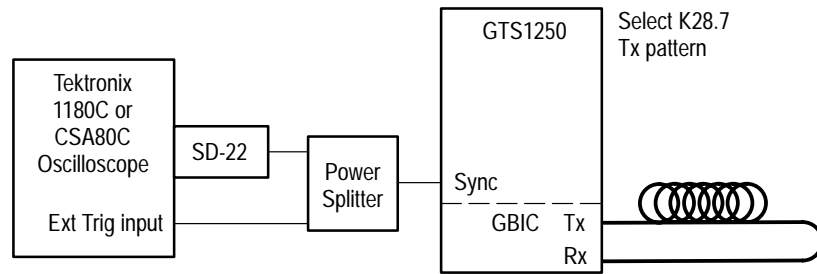

Figure 19: SYNC levels
10. Remove the SMA cable from the Tx CLK outputs of the GBIC Test System. Remove the SMA cable from the Ext Trig input of the oscilloscope. Connect an SMA cable between the SYNC output of the GBIC Test System and a power splitter. Connect an SMA cable from the power splitter to the SD-22 input of the oscilloscope as shown in Figure 19. Connect an SMA cable from the power splitter to the Ext Trig input of the oscilloscope.